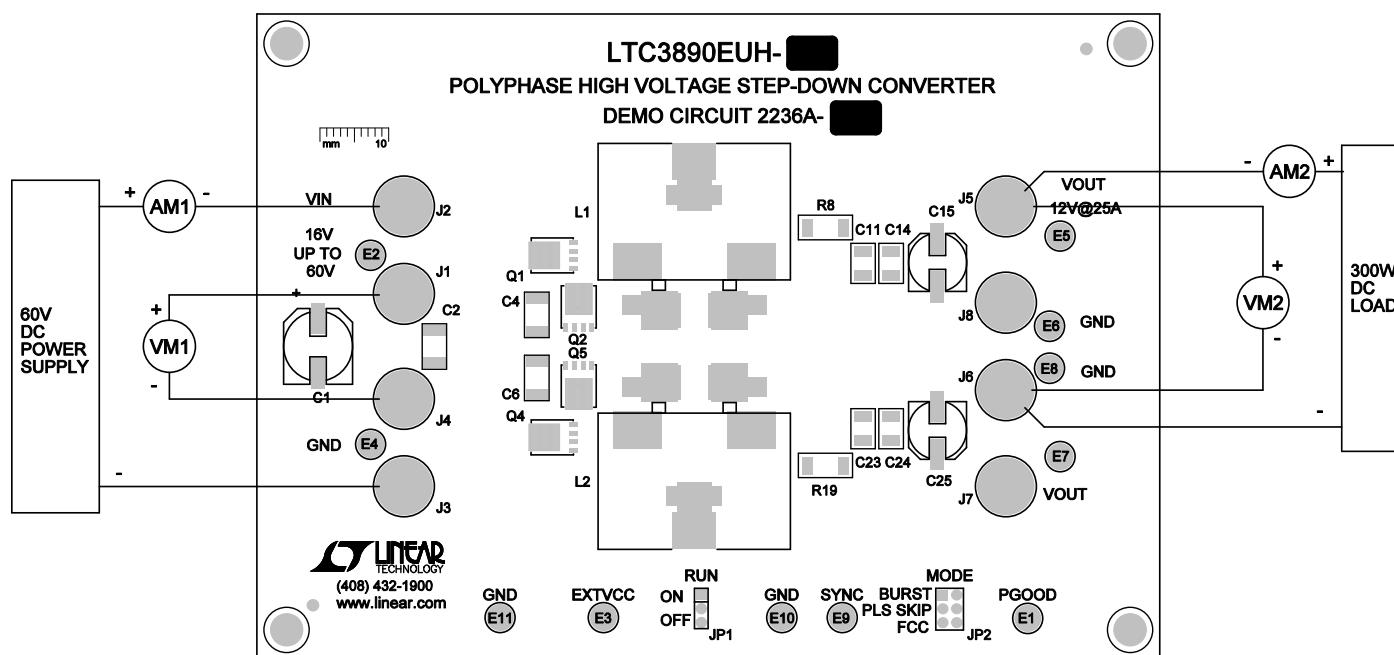

Figure 1. Proper Measurement Equipment Setup
Demonstration circuit 2236A-A is easy to set up to evaluate the performance of the LTC3890-2. For proper measurement equipment configuration, set up the circuit according to the diagram in Figure 1. Before proceeding to test, insert shunt into JP1 (RUN) OFF position, which connects the RUN pin to ground (GND), and thus, shuts down the circuit.
1. With the DC2236A-A set up according to the proper measurement and equipment in Figure 1, apply 20V at V_{IN} . Measure V_{OUT} ; it should read 0V. If desired, one can measure the shutdown supply current at this point. The supply current will be approximately 50 μ A, or less, in shutdown.